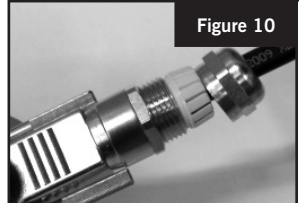

Figure 10
16. Slide the strain relief into the adapter. Ensure cable shield makes contact with the inside wall of the hood & adapter. (See figure 10)